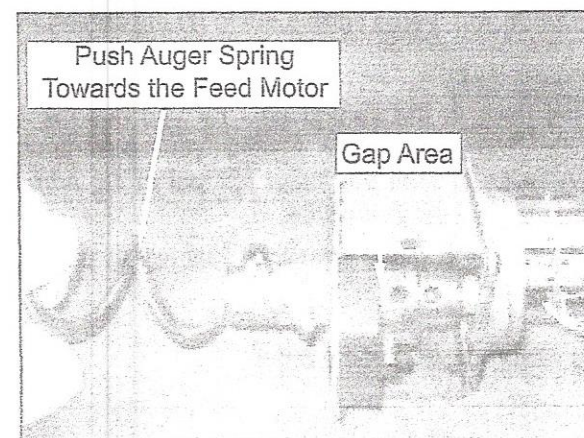

Figure 12
5. Push the auger spring towards the feed motor. The gap between the collar and plastic bearing should be just under a dime's width. Figure 12.